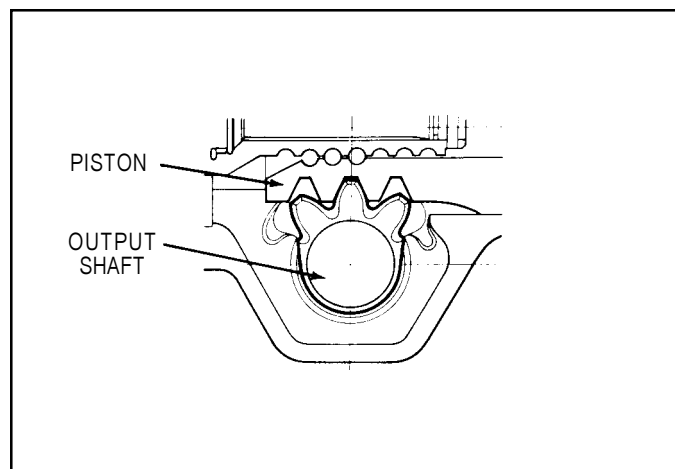

FIGURE 43
7. Insert the valve body, spindle and piston assembly into the housing making certain not to damage the O-ring seals. Install the 4 bolts(1) and washers(2) that secure the valve body to the housing and tighten to a torque of 96 ft.lbs. with a 22mm torque wrench.
Turn the input shaft to center the piston teeth(48) in the side cover opening. This will facilitate the installation of the output shaft and allow the proper mesh between the sector and piston teeth. (See Figure 43)